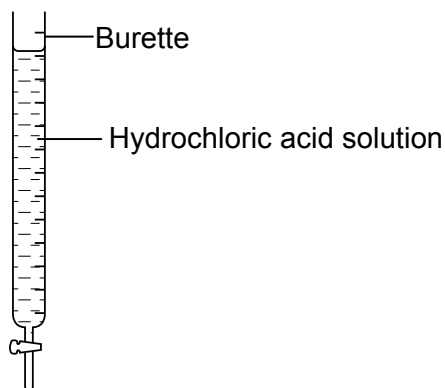

Figure 1.2 Fill the burette with hydrochloric acid solution and ensure the tip is full.
3. Once the burette has been rinsed and washed out with the acid solution, fill it nearly to the top (Fig. 1.2).